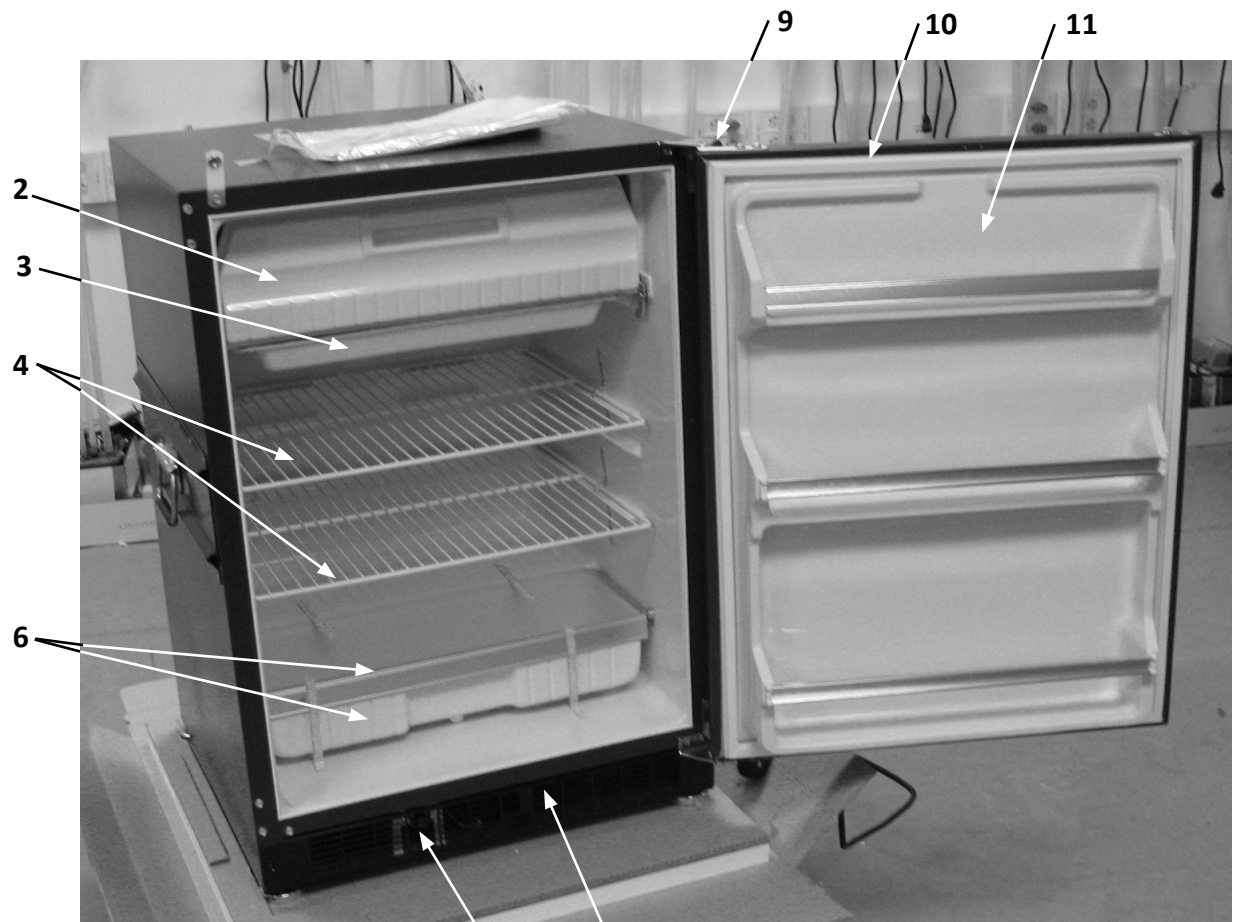

Figure 4-1 Refrigerator Front View
h. Close both doors, plug the power cord into the electrical outlet, reset the thermostat, and wait for at least an hour before replacing perishables. To facilitate the initial compartment pull-down to operating temperature, remove the drip tray (item #3 in Figure 4-1). Replace the drip tray after approximately 3 hours of operation.